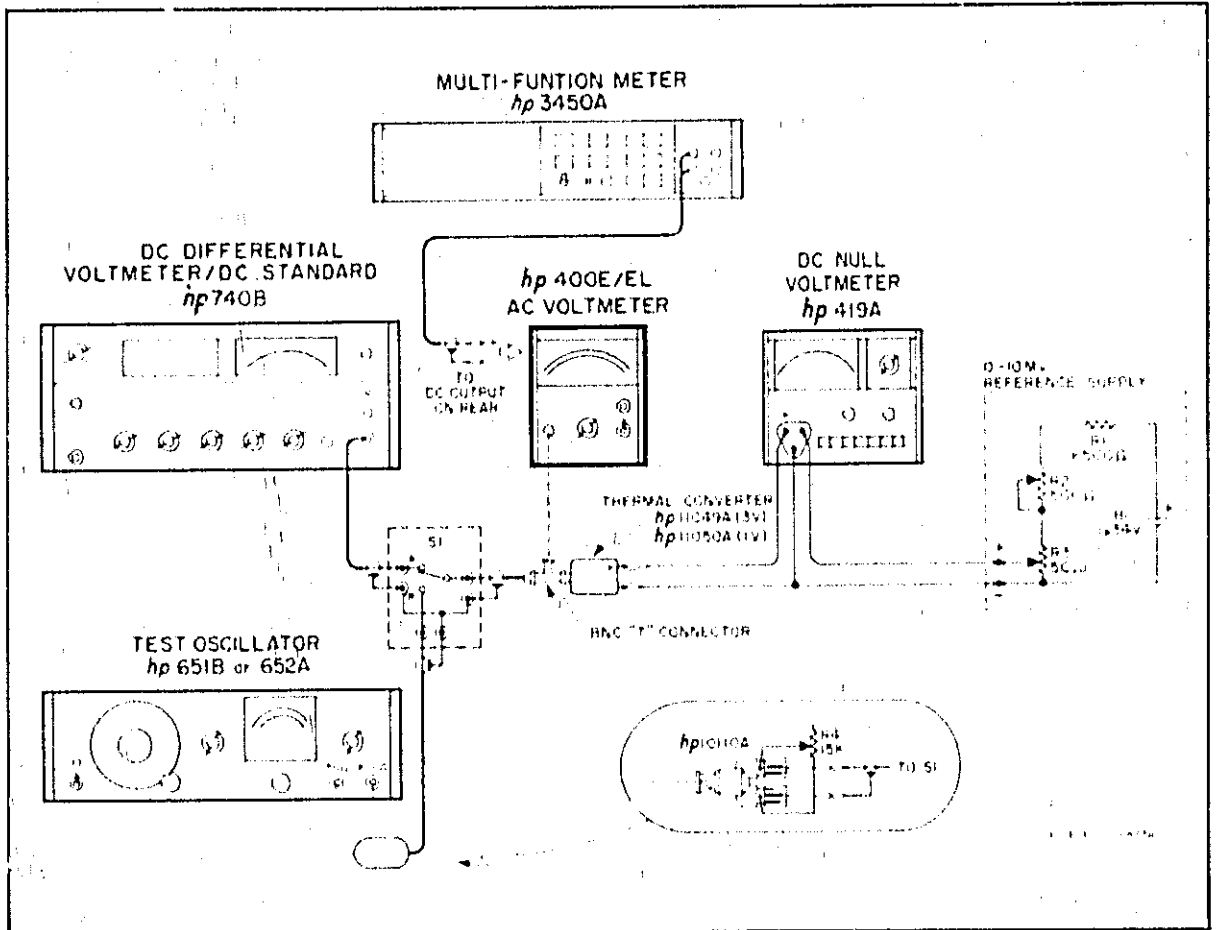

Figure 5-2. Accuracy and Frequency Response Test Setup
5-15. The test setup in Figure 5-2 uses a thermal converter with a null circuit to adjust the frequency response of the test oscillator to within 0.2% over its entire band. Construct the 0 to 10mV Reference Supply shown in Figure 5-2 and allow it at least 24 hours to stabilize.
Figure 5-2. Set switch S1 to position A connecting the dc standard output to the thermal converter input. The reference supply and the thermal converter are sensitive to variations in ambient temperature. Ensure that the ambient temperature variations are less than $\pm 2.0^\circ$ C.
- Set switch S1 in Figure 5-2 to position B, connecting the test oscillator's 600 ohm output to the thermal converter input. Connect the digital voltmeter to the 400E/EL DC OUTPUT terminals.
- Using the oscillator amplitude control as coarse adjustment and resistor R4 (Figure 5-2) as fine adjustment, increase the oscillator amplitude until the thermal converter output nulls the reference supply. Observe the 400E/EL meter indication and dc output.
- Set S1 in Figure 5-2 to position B, connecting the test oscillator 600 ohm output to the thermal converter input. Connect the digital voltmeter to the 400E/EL DC OUTPUT terminals.
- b. Set S1 in Figure 5-2 to position B, connecting the test oscillator output to the thermal converter input. Connect the digital voltmeter to the 400E/EL DC OUTPUT terminals.
- h. Using the oscillator amplitude control as coarse adjustment and resistor R4 (Figure 5-2) as fine adjustment, increase the oscillator amplitude until the thermal converter output nulls the reference supply. Observe the 400E/EL meter indication and dc output.